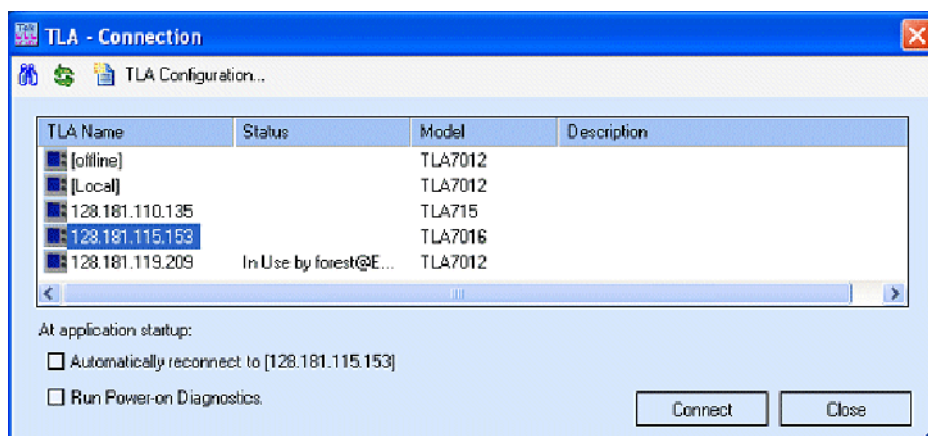

Figure 21: TLA Connection dialog box
8. Start the TLA application by double-clicking the TLA Application icon on the PC. The TLA Connection dialog box appears. (See Figure 21.)